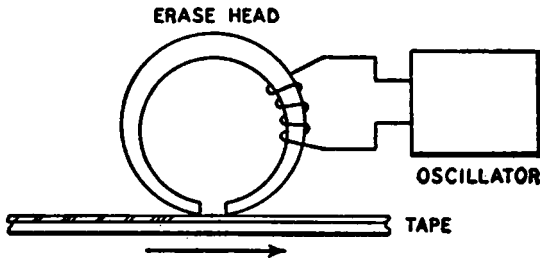

Fig. 6-3. Tape recorder—erase function.
*The erase process.* Erasure is performed by subjecting the pre-recorded tape to the alternating magnetic field set up by an electromagnet called the erase head. This process is shown, in simplified form, in Figure 6-3. The erase head is supplied with an alternating voltage at a constant frequency; the magnetic field thus created destroys the magnetic pattern stored up in the tape by causing the domains to lose their orientation and point in random directions.